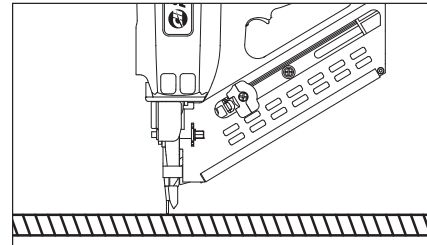

Figure 20
1. Position tool where fastener is to be driven. DO NOT pull trigger or even hold tool with finger on trigger until position is set on the workpiece (see Figure 20).